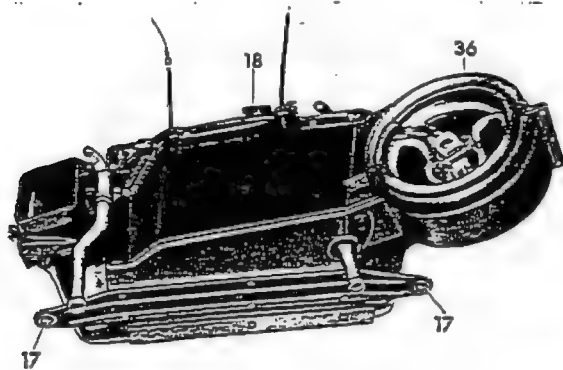

Fig. 83-3/2
10. Pull out the cable plug (12) for the blower (Fig. 83-3/1).
12. Turn out the screws (17) and (18) for the attachment of the heater box (Fig. 83-3/2).
13. Remove the two screws of the clips (8) on the left defroster nozzle (Fig. 83-3/1).
15. Lift the left defroster nozzle, fold up the rubber ring (13) at the front and slide the defroster nozzle with the aperture (14) over the steering lock (Fig. 83-3/1).